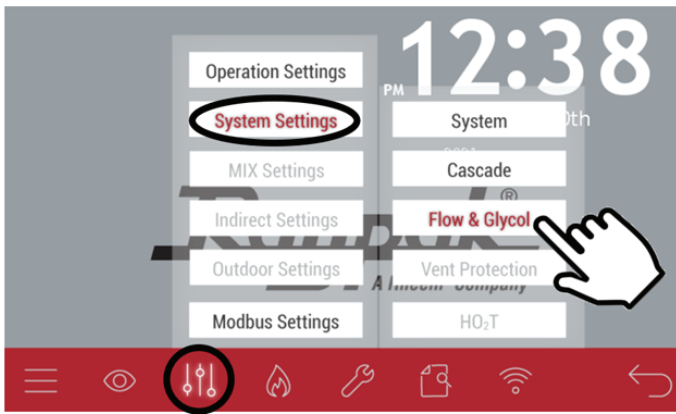

Figure 48. Flow Sensor System Settings
3. On main menu, go to Adjust > System Settings > "Flow and Glycol". See **Figure 48**.
2. On main menu, go to Adjust > System Settings > “Flow and Glycol”. See **Figure 48**.